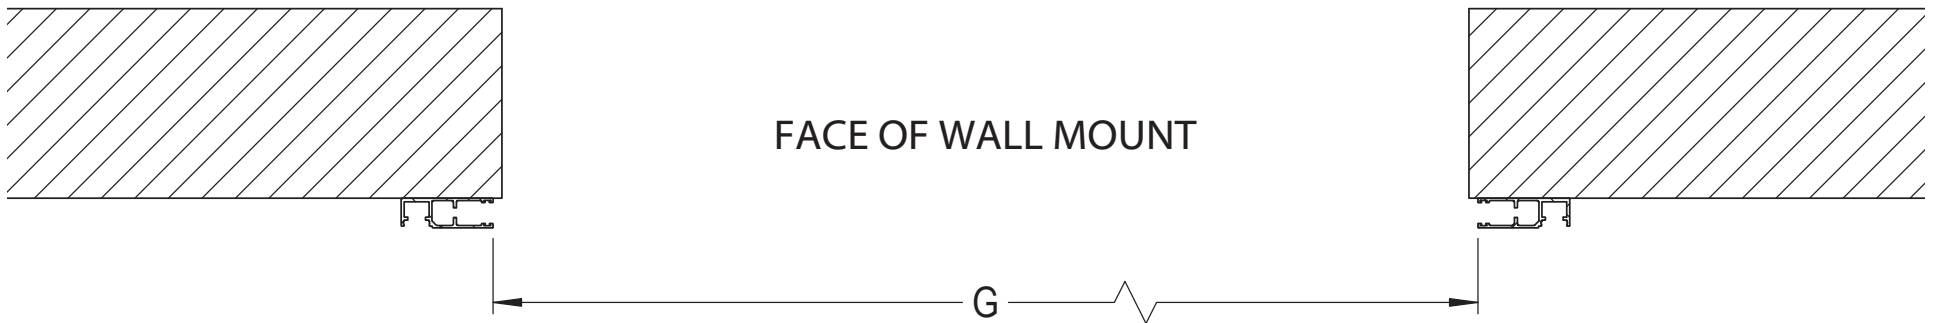

FIG 4
- Are the guides you received suitable for the jambs? Compare the guides type shown on the "Door Installation Data" sheet with FIG 4.
- Check "G" Dimension as illustrated in FIG 4 on page 5. "G" Dimension must match your "DOOR INSTALLATION DATA" sheet.